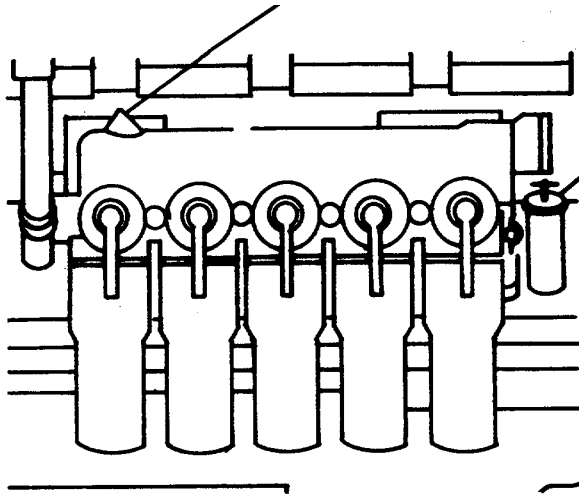
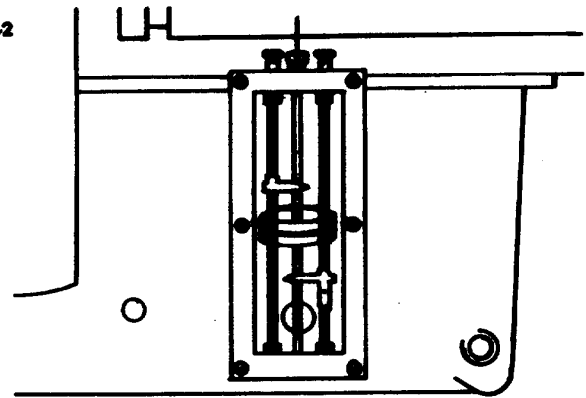

FIGURE 2-1. Lube Oil Priming Point and Oil Fill/Dipstick Arrangement.
FIGURE 2-2. Oil Level Sight Glass.
- (2) Priming the Lubricating System. The engine is primed automatically by an external electrically driven pump. However, in the event of problems in the self priming system, the following procedures should be performed before starting the engine:
- (b) Fill crankcase until oil on dipstick (2, FIG. 2-1) or in liquid level gauge (FIG. 2-2) reaches the "H" (High) mark.
- (c) Remove plug (1, FIG. 2-1) from lubricating oil filter head and use this opening as the priming point.
- (e) Insert dipstick (2, FIG. 2-1) into gauge tube until fully seated; hold for 5 to 10 seconds, then withdraw slowly.